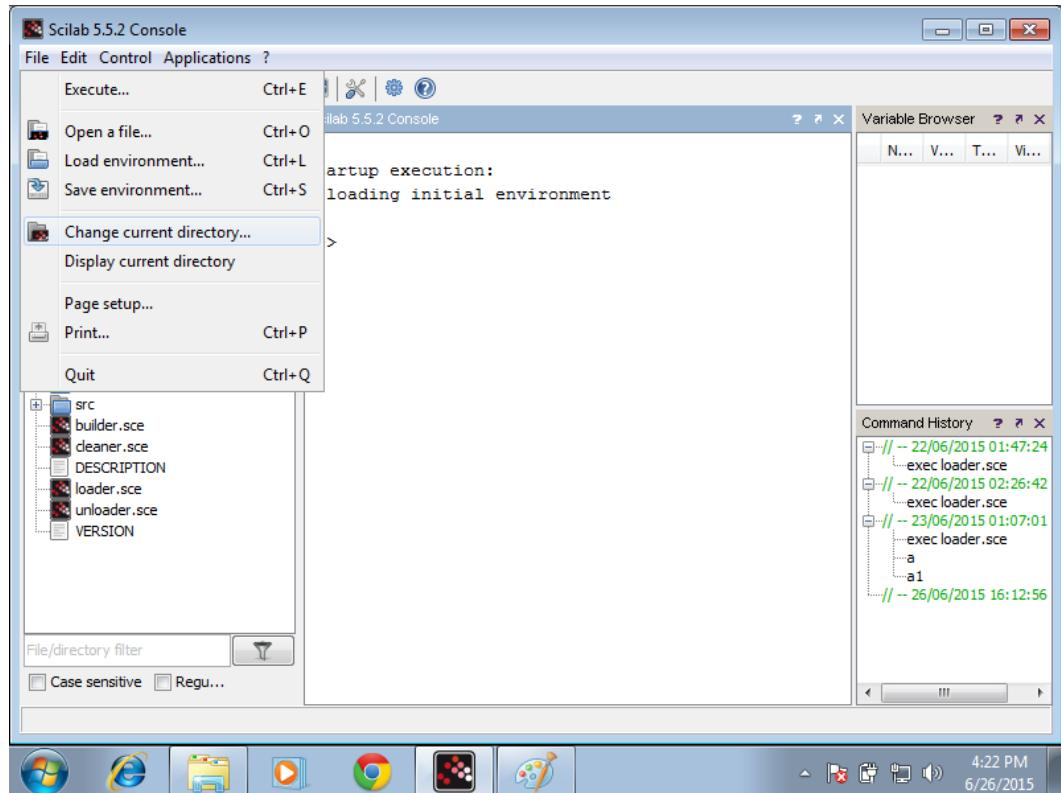

Figure 3.6: Changing scilab directory
2. After launching Scilab, first we have to change the working directory. To do so, click on the **File** menu and then click on the **Change current directory** option as shown in Fig. 3.6.